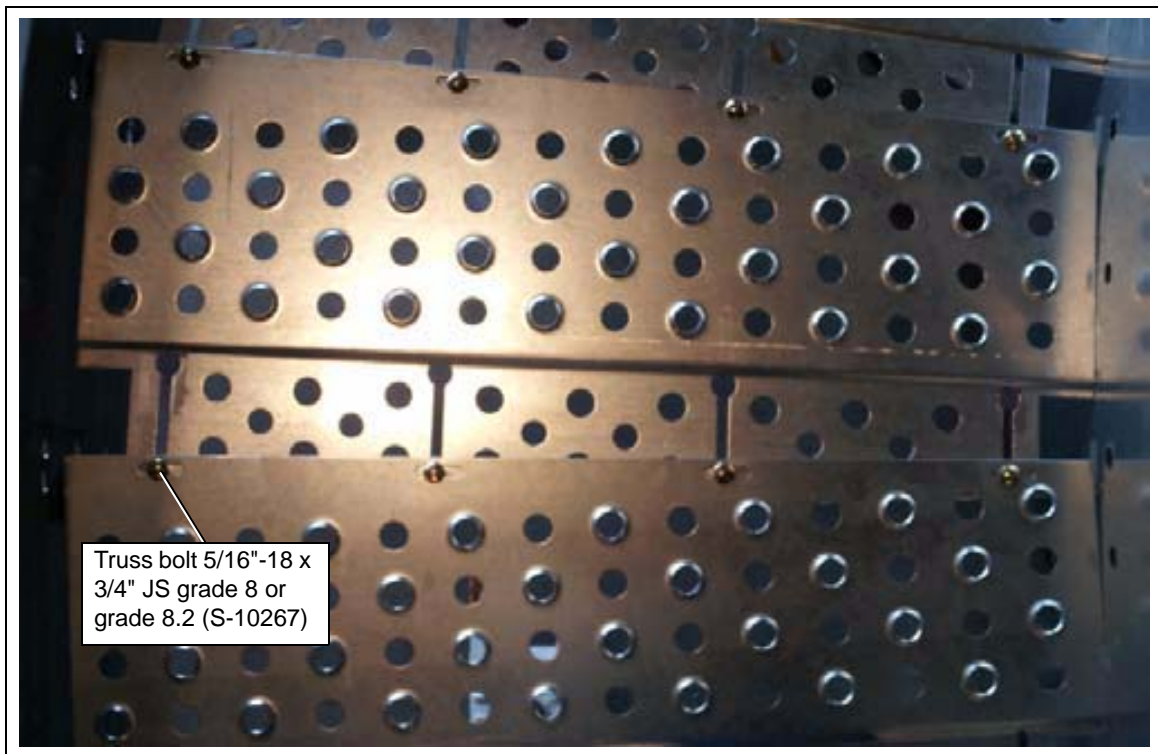

Figure 6Q
- Each plank should be overlapped at the edges and bolted with 5/16"-18 x 3/4" JS grade 8 or grade 8.2 bolts (S-10267) and 5/16"-18 x 3/4" JS grade 2 nuts (S-10268). (See Figure 6Q.)